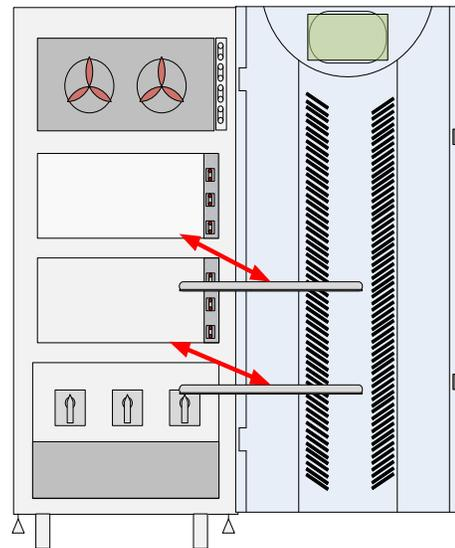

Fig. 5-5
3. Uninstall battery tray keepers by removing screws(3 each) at the front of the individual shelves. The shelves should now be clear for battery tray installation (Fig. 5-5).